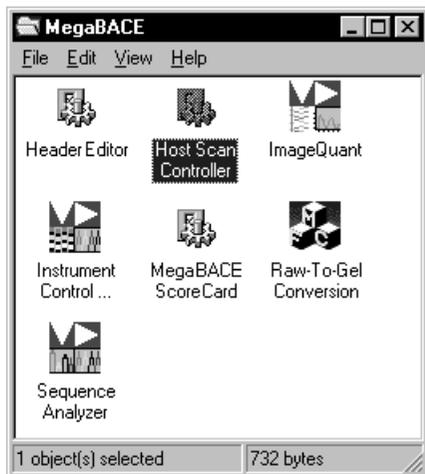

Figure 3-2. The MegaBACE folder. Note that the icon for the applicable analysis software appears in this folder (Sequence Analyzer or Genetic Profiler).
1. Double-click the MegaBACE folder on the Windows NT or Windows 2000 desktop (figure 3-2) to open the folder and display the icons for the MegaBACE software. (Alternatively, you can start the Host Scan Controller software using the Start menu.)